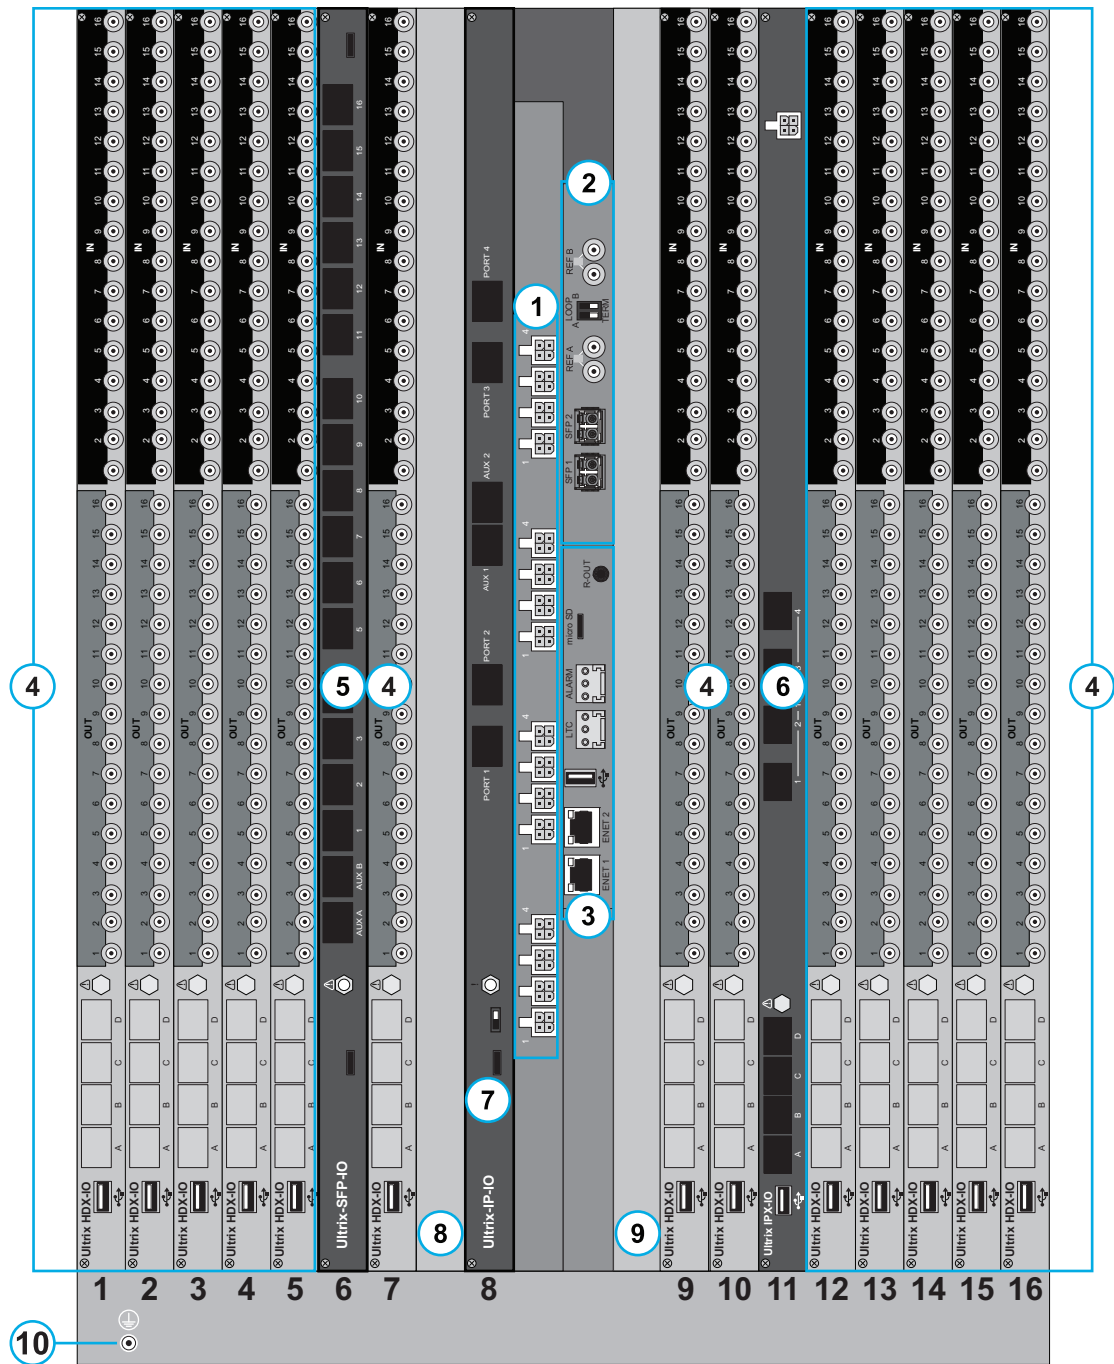

Figure 3 Example of an ULTRIX-FR12 — Rear Panel
1. Locate the ENET ports on the Frame Control CPU Module of the ULTRIX-FR12 rear panel. Refer to **Figure 3** for module location.